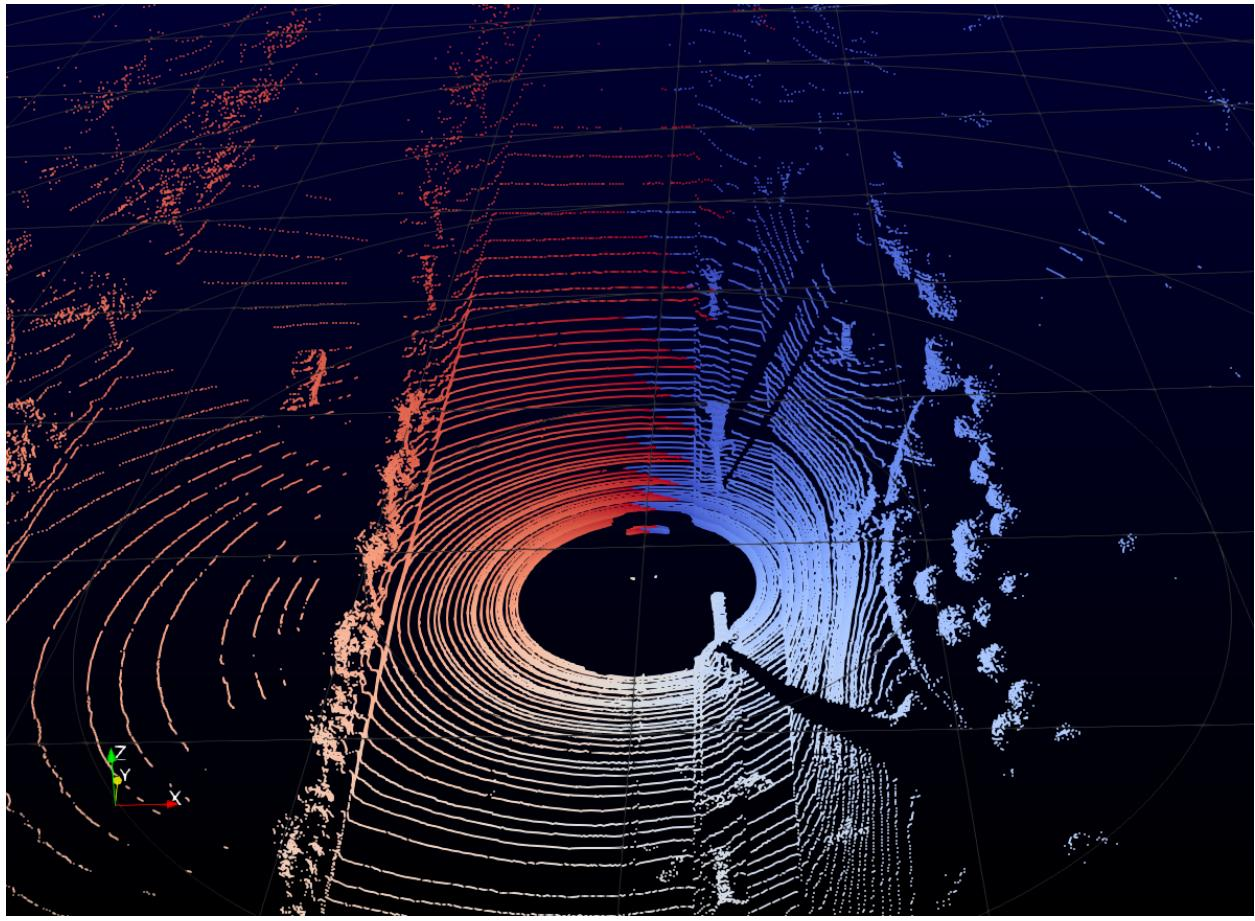

Figure 4 : HDL-64 Sensor colored by timestamp
- *azimuth* : the clockwise azimuth angle of the sensor head, in degrees. All points acquired at a particular Sensor-head azimuth (and timestamp) do NOT HAVE the same azimuth (because each channel has a rotational correction up to ± 6 degrees). Hence around the 0 azimuth, there may be an overlay of points from the beginning ($=0$ azimuth) and the end ($=359$ azimuth), on BOTH sides of 0 (see **Figure 4**)